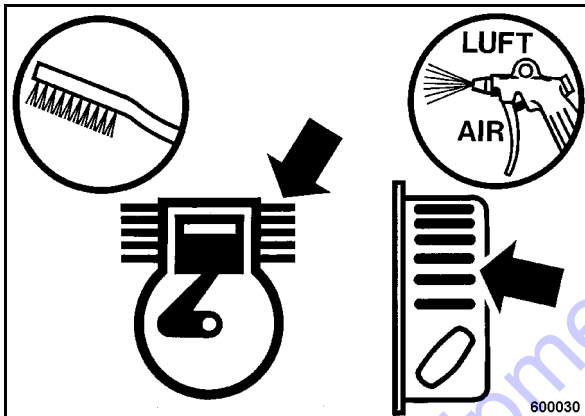

Fig. 34
- Loosen dried on dirt with a suitable brush (Fig. 34) from all cooling fins and cooling air intake openings and blow it off with compressed air.